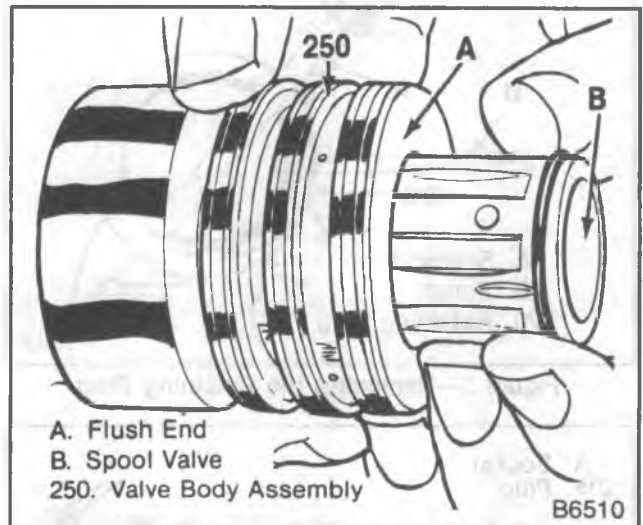

Figure 11—Remove or Install Valve Spool
- Valve spool (252) and seals (230) and (231) (figure 11).
- 16. Screws (210), clamp (211) and ball guide (212).
- Balls (213).